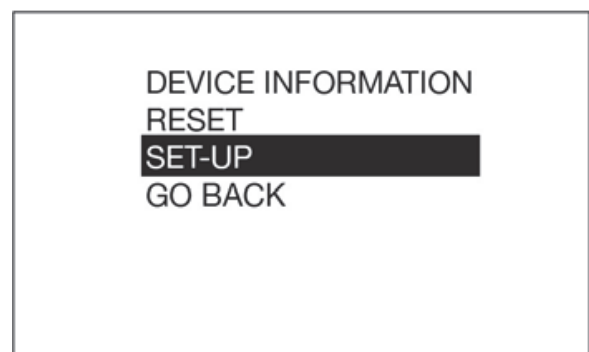

FIG. 13
2. Use the UP or DOWN ARROW button on the keypad to highlight SET-UP (FIG. 13) and then press the center ENTER button on the keypad to select the SET-UP option.